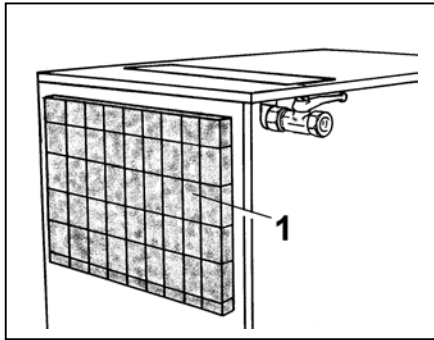

FIG. 15
- Quitar el panel filtrante Ref. 1 Fig. 15.